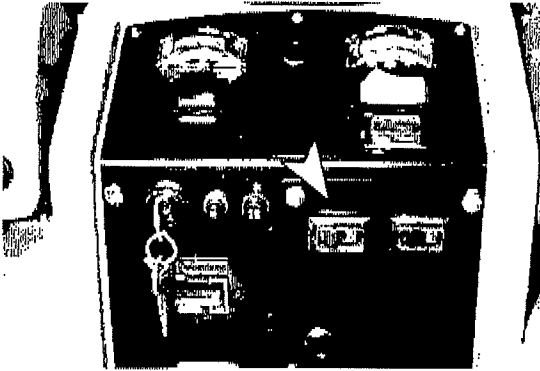

FIG. 18
- b. Make sure ES™ switch is turned on when operating machine (Figure 18).